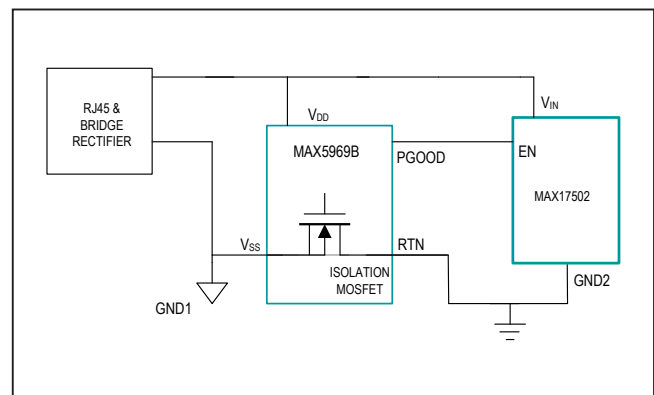

Figure 7. Isolation MOSFET and PGGOOD enable the MAX17502.
The MAX5969B enters power mode when V_{IN} rises above the undervoltage lockout threshold (V_{ON}). Note that $V_{ON}/V_{OFF} = 38.6V/31V$ for the MAX5969B. When V_{IN} rises above V_{ON} , the MAX5969B turns on the internal n-channel isolation MOSFET to connect GND to RTN. The open-drain power-good output (PG) remains low for a minimum of t_{DELAY} until the power MOSFET fully turns on to keep the downstream DC-DC converter disabled during inrush. The P_{GOOD} open-drain output is also connected to three small-signal transistors to prevent the DC converters from powering up before the power from the PD is allowable. See Figure 7.